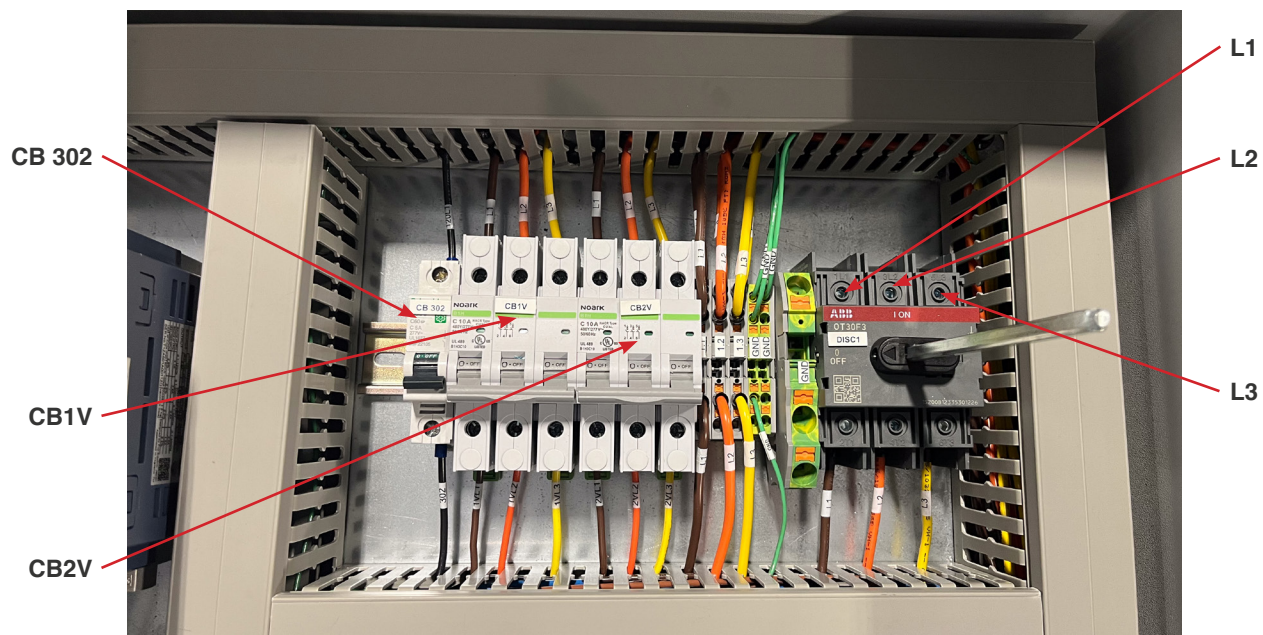

Fig. 3.3 - 4 - Customer 3PH connection
5. Connect 120VAC to the 120L1, 120LN, and ground terminal located in wheelblastIT electrical enclosure. (Fig. 3.3 - 2).